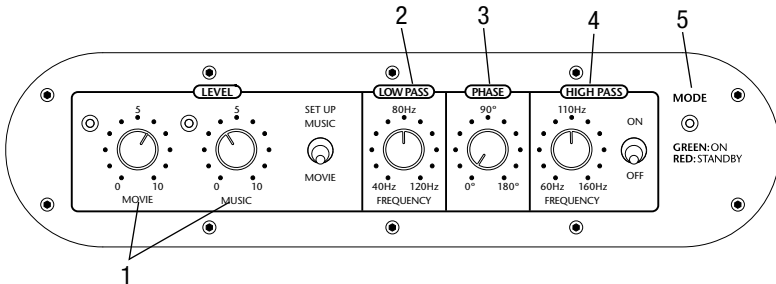

Figure 3. The Pro15SW's front panel contains the subwoofer's operation controls.
The Pro15SW's operation controls are located on the unit's front panel, as shown in **Figure 3**. They function as follows:
- MUSIC/MOVIE LEVEL and SETUP Controls:** While listening to music, move **SETUP** switch to **MUSIC** and adjust the **MUSIC LEVEL** control to set the desired bass level. Similarly, while listening to a movie, move **SETUP** to **MOVIE** and adjust the **MOVIE LEVEL** control to set the desired bass level. Each level control includes an accompanying LED indicator to identify which one is currently active as triggered by your home theater sound processor or receiver (see **Figure 3** on page 7). Also see **SETTING UP THE PRO15SW** on page 15.
- HIGH PASS Frequency adjustment with ON/OFF switch:** Use the **HIGH PASS** control to set the high-pass crossover frequency from 60 to 160 Hz (according to your loudspeaker manufacturer's recommendation) to drive a satellite loudspeaker system amplifier from the line-level **AUDIO OUT** jacks (also see **Figure 3** on page 7.) To activate the filtered signals, set the **ON/OFF** switch to **ON**.
- The **MODE** indicator (on the far right) shows which power mode is active, as set by the (Auto) **POWER** switch (see **Figure 3** on page 7): Green is **ON**; Red is **STANDBY**.
NOTE: ON THE FRONT PANEL IF SETUP (SEE **FIGURE 3** ON PAGE **7**) SWITCH IS SET TO MUSIC, A 3 TO 30 VDC (OR VAC) TRIGGER SIGNAL WILL CHANGE OPERATION OVER TO THE MOVIE MODE. IF THE SETUP SWITCH IS ALREADY SET TO MOVIE, A TRIGGER SIGNAL HAS NO EFFECT, SINCE THE MODE IS ALREADY SET TO MOVIE.